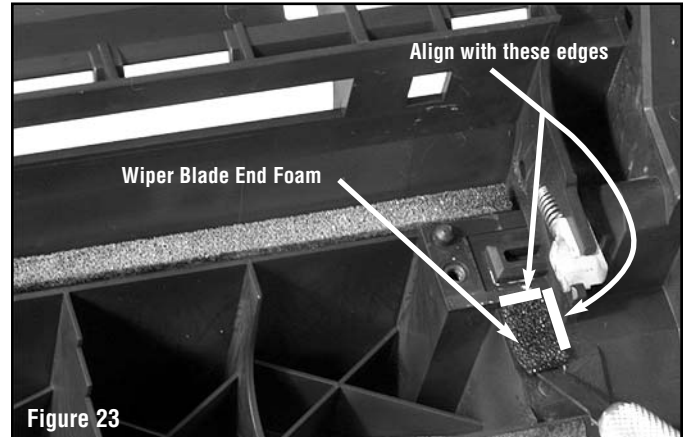

Figure 23
2. Align the straight edge of the Wiper Blade End Foam with the edge of the cartridge body; then, using the scraper tool, place the Wiper Blade End foam in to the cartridge body. See figure 23.